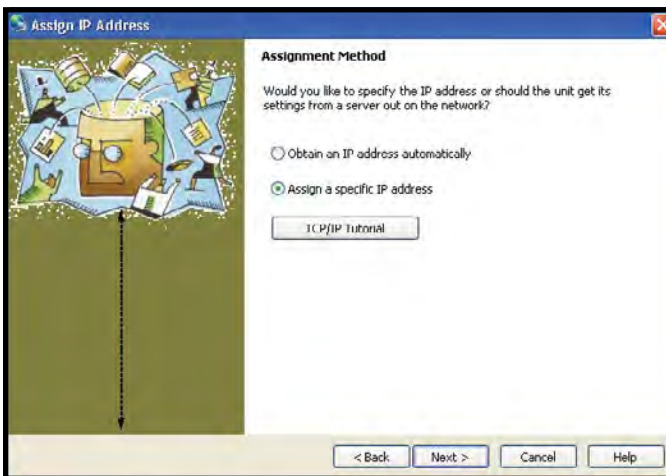

Figure 7. Assign IP Address, Assignment Method window
7. Select "Assign a specific IP address" then click on the "Next >" button (see Figure 7).